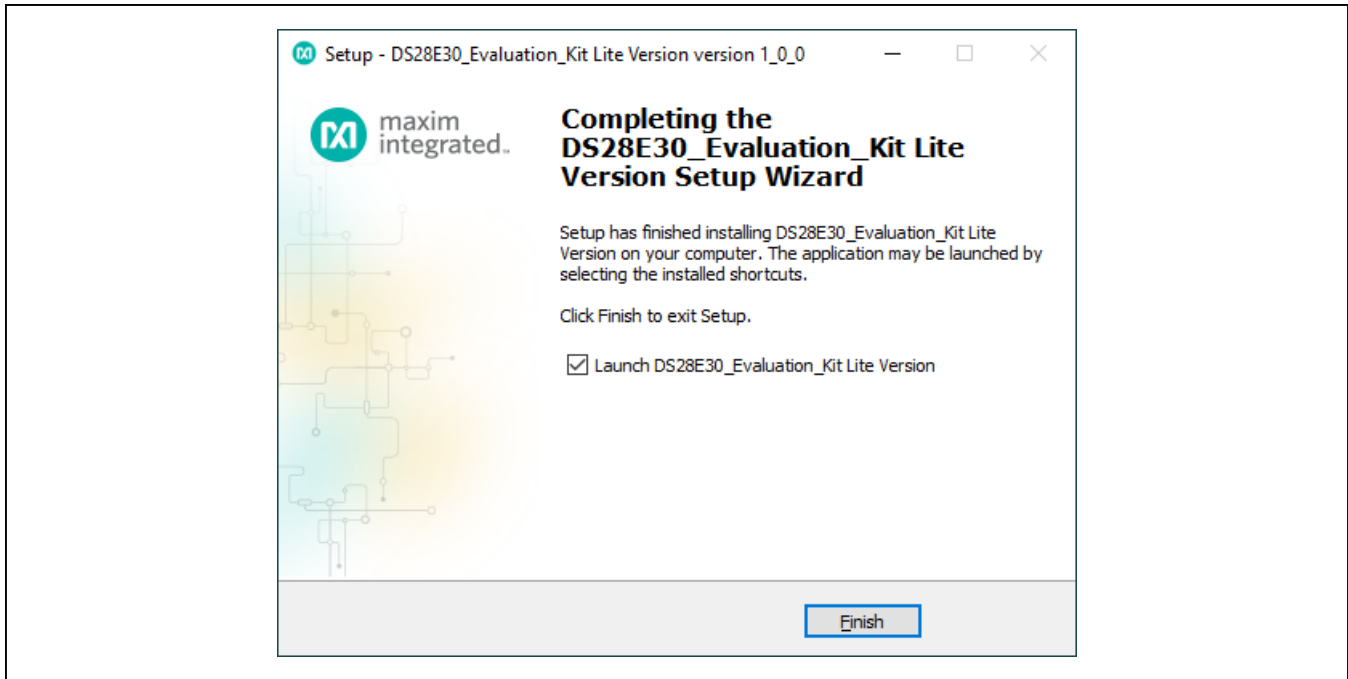

Figure 5. Run Software After Installation
- 6) Select the Launch DS28E30\_Evaluation\_Kit Lite Version check box, then click **Finish** to open the program (Figure 5).